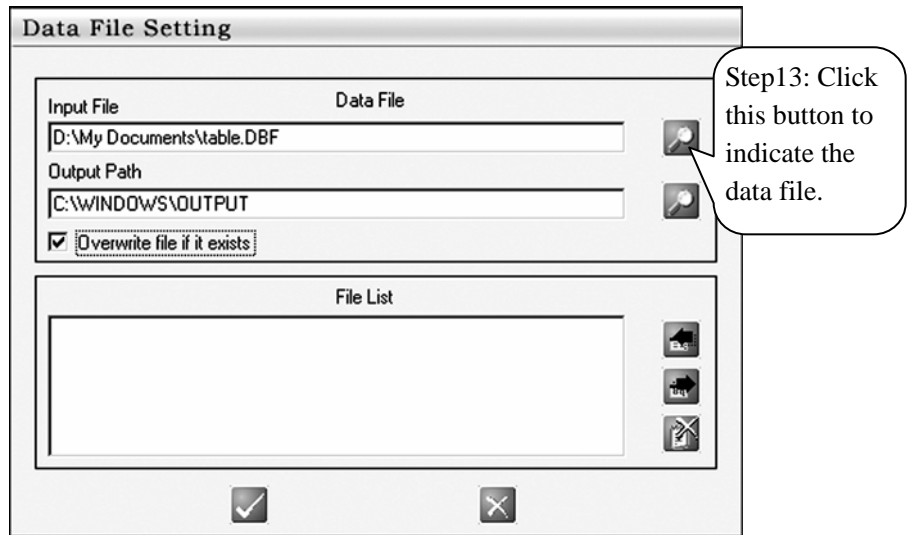

Figure 4-7
6. Following the Step 13, 14, 15 on the Figure 4-7, 4-8 to indicate the data file (In fact, Notepad.exe needn't a data file):